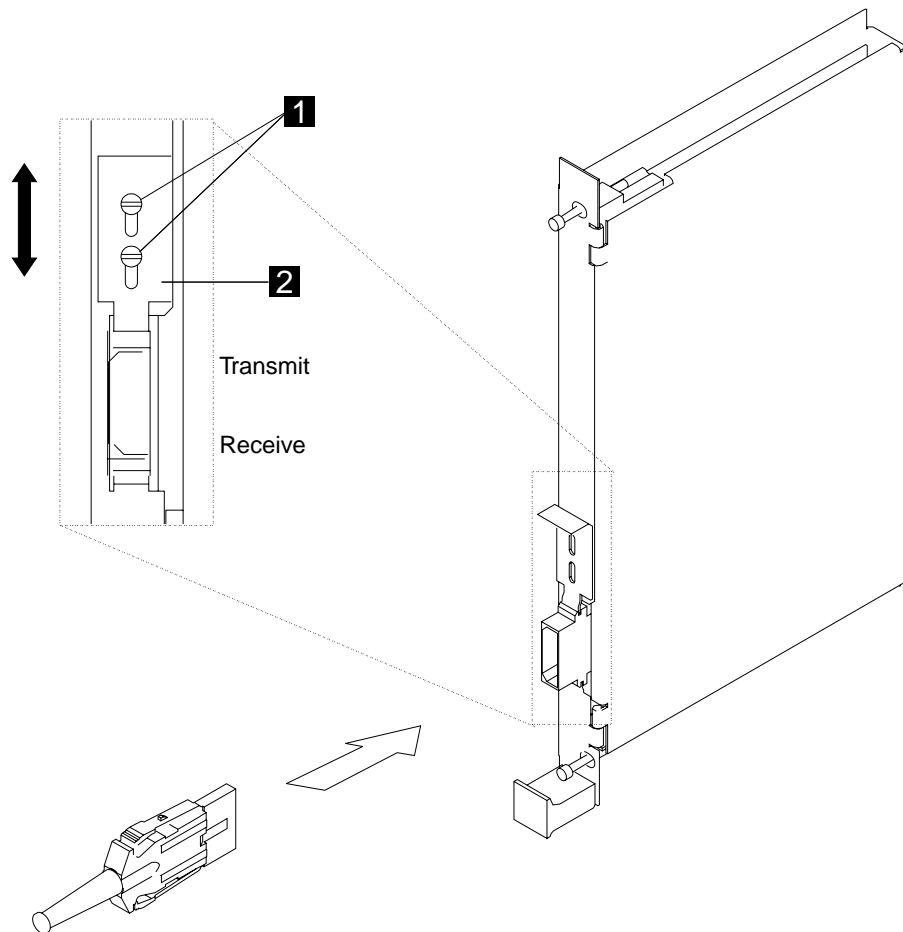

Figure 4-5. ESCA Cable Plugging
- Step a. ____ Route and temporarily plug the ESCON cables of the links to be tested into the ESCC connectors. Install the cables according to the plugging sheets obtained from the customer (refer to Figure 4-5 on page 4-6 and Figure B-8 on page B-6 to locate the connectors).
2. **Obtain the plugging sheets from the customer (prepared using the 3745 Communication Controller Models A and 3746 Expansion Unit Model 900: Migration and Planning Guide) and plug the ESCA cables as follows: (see Figure 4-5)**